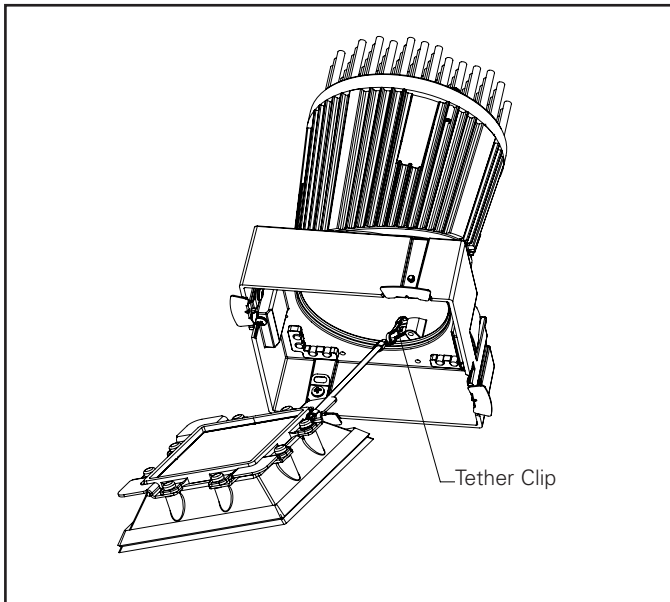

Figure 11.
5. Attach trim tether clip to aiming bracket (Figure 11).